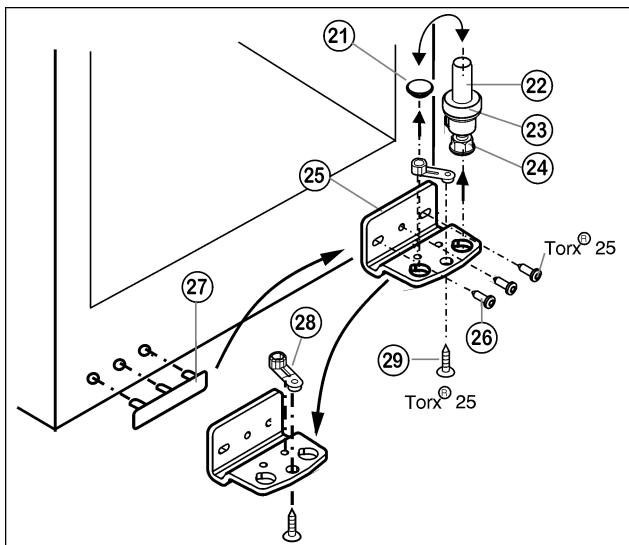

Fig. 6
- ▶ Lift out the bearing pin Fig. 6 (22) together with washer Fig. 6 (23) and adjustable-height foot Fig. 6 (24).
- ▶ Lift off the stopper Fig. 6 (21).
- ▶ Unscrew Fig. 6 (26) the turn hinge Fig. 6 (25).
- ▶ Unscrew Fig. 6 (29) the bearing element Fig. 6 (28), transfer it to the opposite location hole of the turn hinge and screw it firmly into place.
- ▶ Carefully lift off the cover on the handle side Fig. 6 (27) and transfer it to the opposite side.
- ▶ Screw the turn hinge Fig. 6 (25) firmly into place on the new hinge side, possibly using a cordless screwdriver (with 4 Nm).
- ▶ Re-insert the stopper Fig. 6 (21) into the other hole.
- ▶ Re-insert the bearing pin Fig. 6 (22) together with the washer and adjustable-height foot. In so doing, pay attention that the locating lug points backwards
- ▶ Lift the stopper (33) out of the door bearing bush and transfer it.
- ▶ Dismantle the door handle (32), stoppers (33) and pressure plates* (34) and transfer to the opposite side.
- ▶ Place the door from above onto the lower bearing pin Fig. 6 (22).
- ▶ Insert the upper turn hinge (12) in the door on the new hinge side.
- ▶ Screw the upper turn hinge (12) firmly into place (with 4 Nm)(2x Torx® 25) (13). Possibly make preliminary holes with a bradawl or use a cordless screwdriver.
- ▶ Snap the cover (10) and cover (11) into place at the opposite side.
- ▶ Align the door to the appliance housing by way of the two oblong holes in the bottom turn hinge Fig. 6 (25). To do so, unscrew the middle screw.